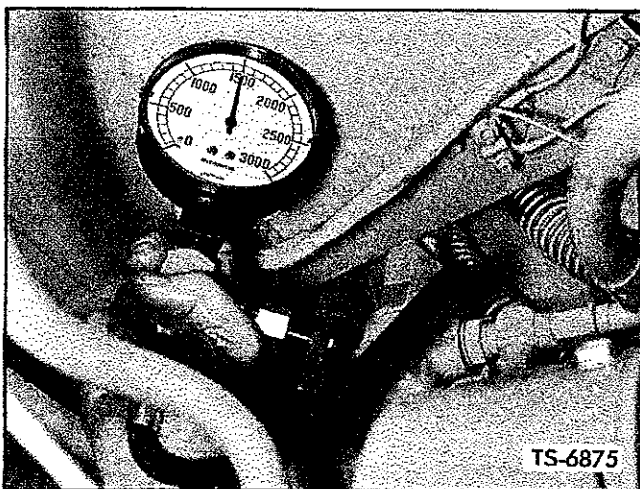

Fig. 37. Check Pressure — Steering Relief Valve
1. Use a hydraulic pressure gauge of at least 3000 psi capacity. With engine shut down, remove plug on side of relief valve and connect gauge as shown in Figure 37.